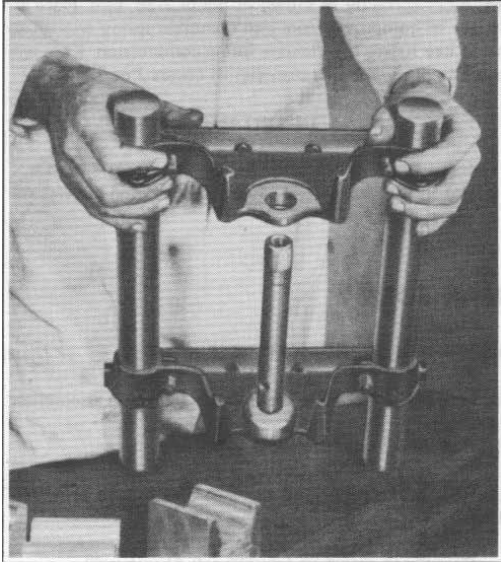

Figure 2-37. Checking Stem Alignment With Gauge
6. Check fork stem alignment with Fork Stem and Bracket Aligning Gauge as shown in Figure 2-37. Use Bending Bar to bring stem into position. Recheck the fork completely.